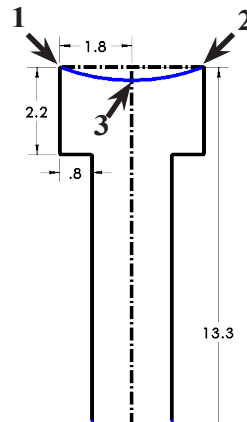

Fig. 8
Step 1. Click **3 Point Arc**  (S) in the Arc flyout  on the Sketch toolbar.
Step 2. Draw an arc between the Position 1, Position 2 and Position 3 in **Fig. 8**. To draw the arc, first click Position 1, then Position 2. Swing the arc down to Position 3 and click.